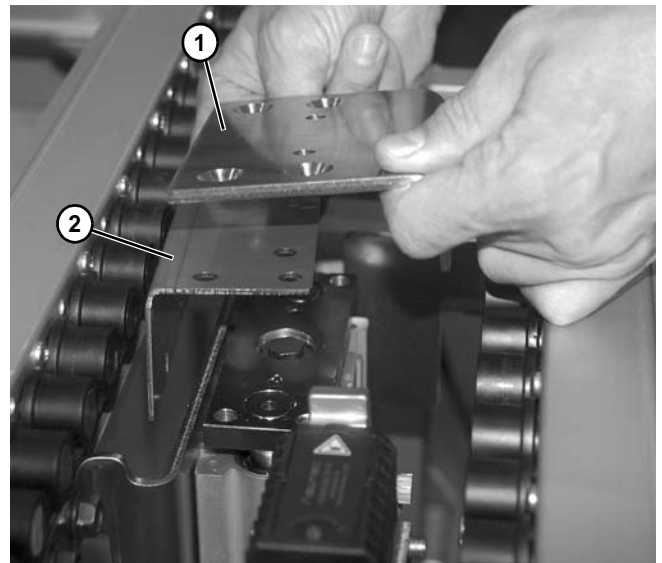

Figure 99
6. Remove mounting plate (Figure 99, item 1) and inner plate (Figure 99, item 2) from lift cylinder.